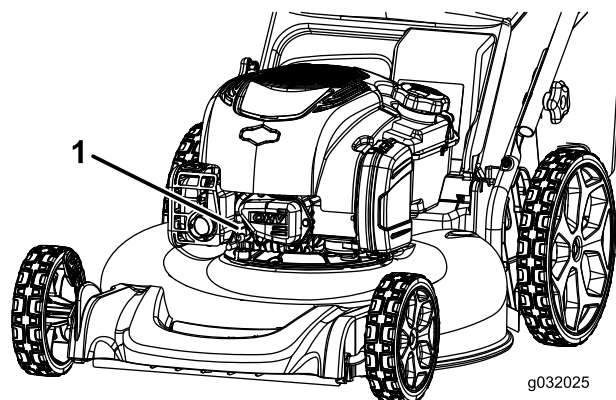

**Figure 18**
- Disconnect the spark-plug wire from the spark plug (Figure 18).